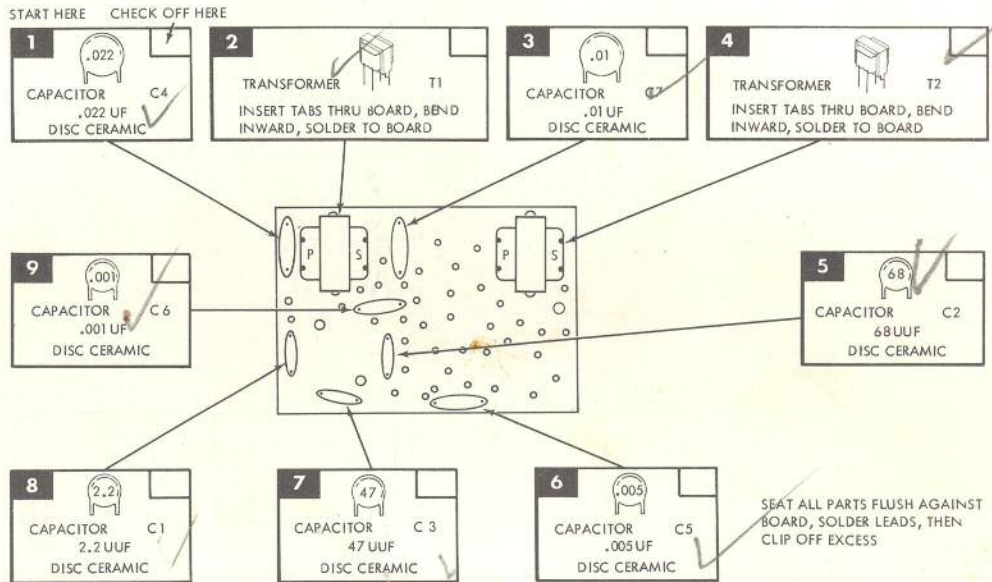

Figure 1. Transformers and Disc Capacitors
k. Orient printed circuit board, circuit side down, as shown in figure 1. Start assembly with transformers and capacitors.